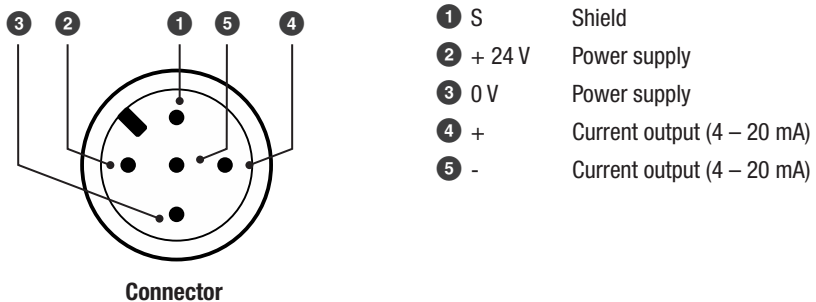

Fig. 9
6. Pull the cable through the cable gland **8** and the connector upper part **3** and wire the terminals of the connecting plate **4** according to the wiring diagram. **Fig. 9**